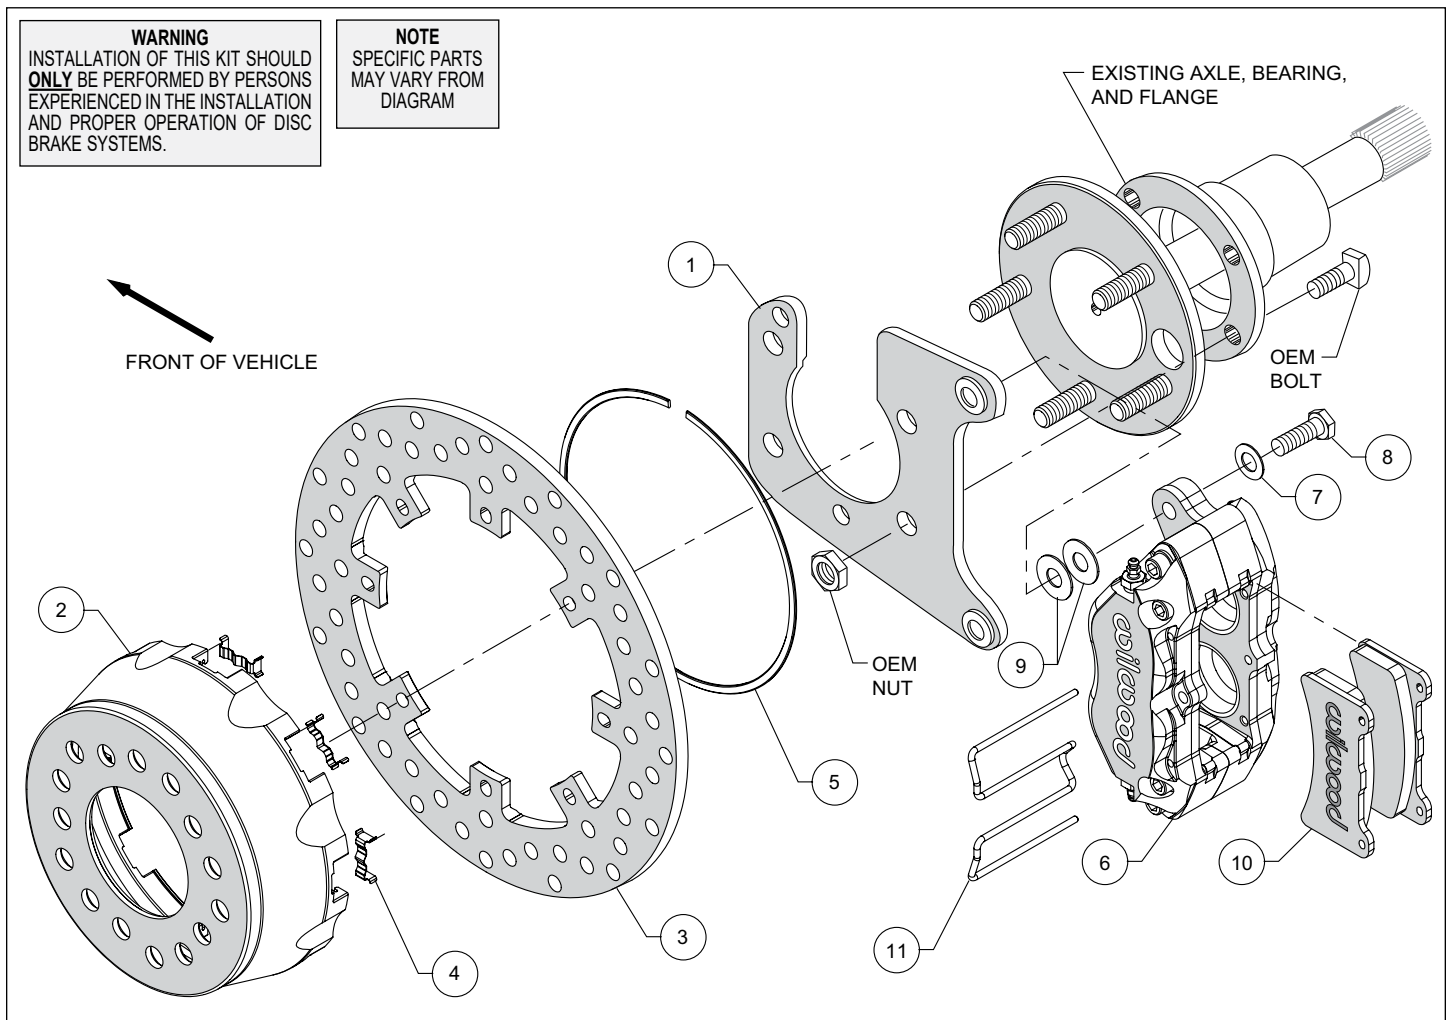

Figure 1. Typical Installation Configuration
**Assembly Instructions** (numbers in parenthesis refer to the parts list and Figure 1 on the preceding pages): **CAUTION:** All mounting bolts must fully engage clinch nuts. Be sure to check that all bolts are either flush or protruding through flanged side of clinch nut after shimming, Figure 5.
- Install the caliper mounting bracket (1), with the slot for the axle pointing upward, to the housing flange using the OEM bolts and nuts, as shown in Figure 1 and Photo 1. Ensure that the heads of the clinch nuts are facing outboard, Photo 1. Apply red *Loctite*® 271 to the OEM bolt threads and torque to OEM specifications.
- Insert the dynamic mount wear plates (4) into the slots in the hat (2) making sure the tabs snap in place, Photo 2. Orient the rotor (3) as shown in Figure 1 and Photo 3, with the flush mount tab side facing the hat. Attach the rotor to the hat using snap ring (5) by pushing down on the rotor and installing the ring into the groove in the hat, as shown in Photo 4. Ensure that the ring is fully engaged in the groove.
- Align the correct hole pattern in the hat (2) with the axle stud pattern and slide the hat/rotor assembly onto the axle hub. **NOTE:** The hat must fit flush against the axle flange or excessive rotor run out may result. Install three lug nuts (finger tight) to keep the hat/rotor in place while continuing with the installation. **NOTE:** The hats included in this brake kit are drilled for .68" diameter wheel studs.
- **NOTE:** Please reference the caution statement at the beginning of the assembly instructions. Mount one caliper (6) onto the mounting bracket (1) using bolts (8) and washers (7), as shown in Figure 1. Initially place two .035" thick shims (9) on each bolt between the caliper and the bracket, Photo 5. Temporarily tighten the mounting bolts and view the rotor (3) through the top opening of caliper. The rotor should be centered in the caliper, Photo 6. If not, adjust the caliper by adding or subtracting shims between the bracket and the caliper. Always use the same amount of shims on each of the two mounting bolts. **NOTE:** The end of each bolt must be flush with or slightly protruding from the head of the clinch nut. If necessary, place spare shims between washer and caliper mounting ear to achieve the proper clinch nut engagement, as shown in Figure 5. Once the caliper alignment and clinch nut engagement are correct, remove the bolts one at a time, apply red *Loctite*® 271 to the threads, and torque to 40 ft-lb.